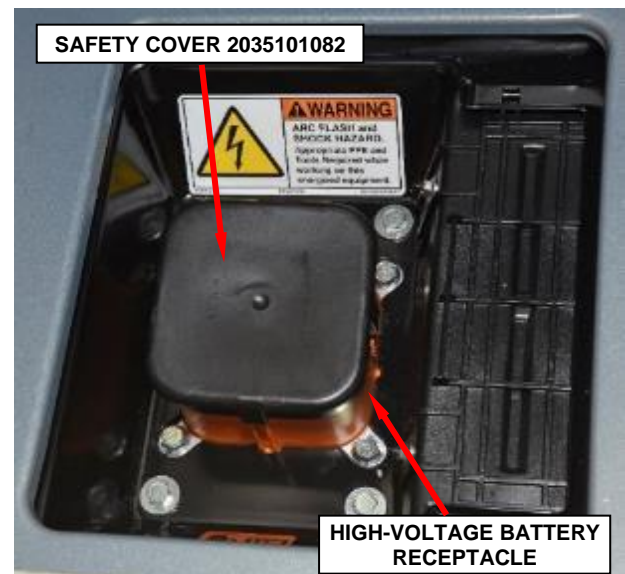

Figure 13 – High-Voltage Battery Receptacle Safety Cover
20. Cap the receptacle on the high-voltage battery with safety cover 2035101082 to prevent foreign objects from entering the receptacle (Figure 13).
38. Remove the safety cover from the high-voltage battery receptacle (Figure 13).